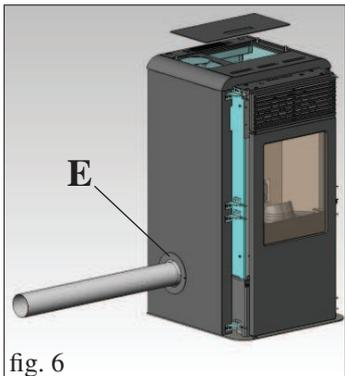

fig. 6
Complete the operation by applying the closure rosette provided (E - fig. 6) using the screws provided, after replacing the metal side.
Check the vertical alignment of the ceramic side elements (C) and make any necessary adjustments with the screws above the top (V - fig. 5) and inside the stove with the screws (R - fig. 6/7)
**N.B. Before carrying out this operation, remove the galvanized panel (Z - fig. 6/7) on both sides and loosen the locking screws (T - fig. 6/7).**